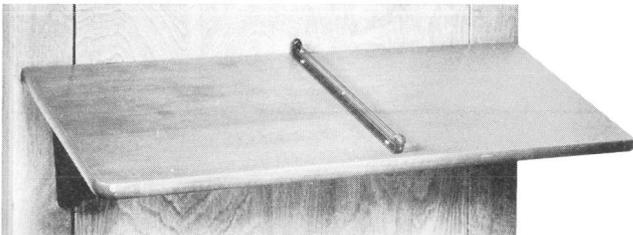

Fig. 7 — KS-6536 Directory Fastener
3.02 Locate the fastener in the center of shelf or table 1/2-inch from front edge. Attach the fastener with 3/4-inch No. 8 RH blued wood screws. See Fig. 7, 8, and 9.